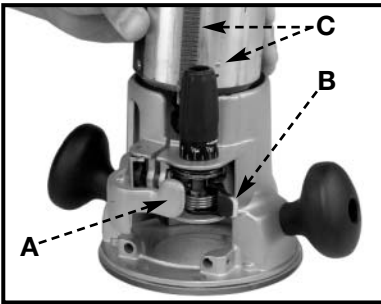
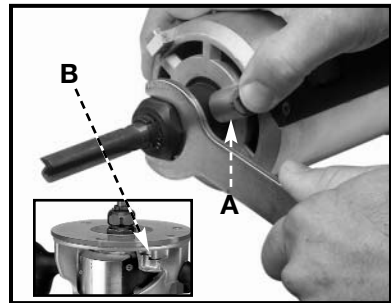

Fig. 1
Fig. 2
- (a) Open the clamp (A) Fig. 1.
- (b) While holding base, pull lever (B).
4. Press the spindle lock button (A) Fig. 2.
1. Open the clamp (A) Fig. 1 and set the power unit in the base unit.
2. Align the rack and pin (C) Fig. 1 of the power unit with the grooves in the base, pull the lever (B) Fig. 1, and lower the motor into the base.
3. Close the clamp (A).